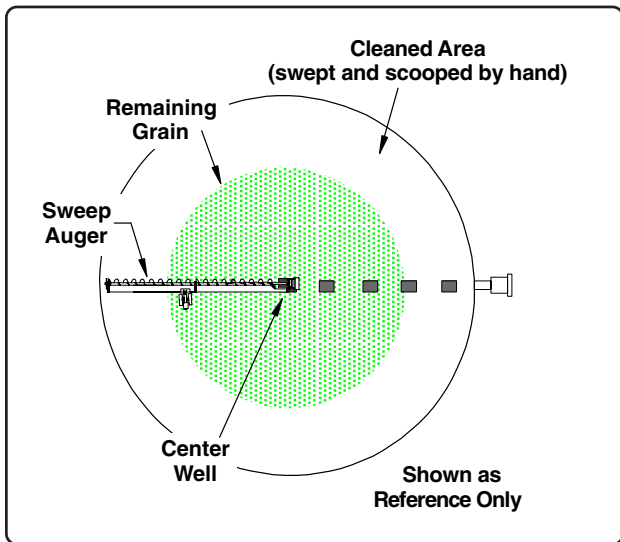

Fig. 3
1. With the power source shut down and locked out, clean (scoop and sweep by hand) the outer area of the floor into a circular pile towards the center of the bin (See Fig. 3).